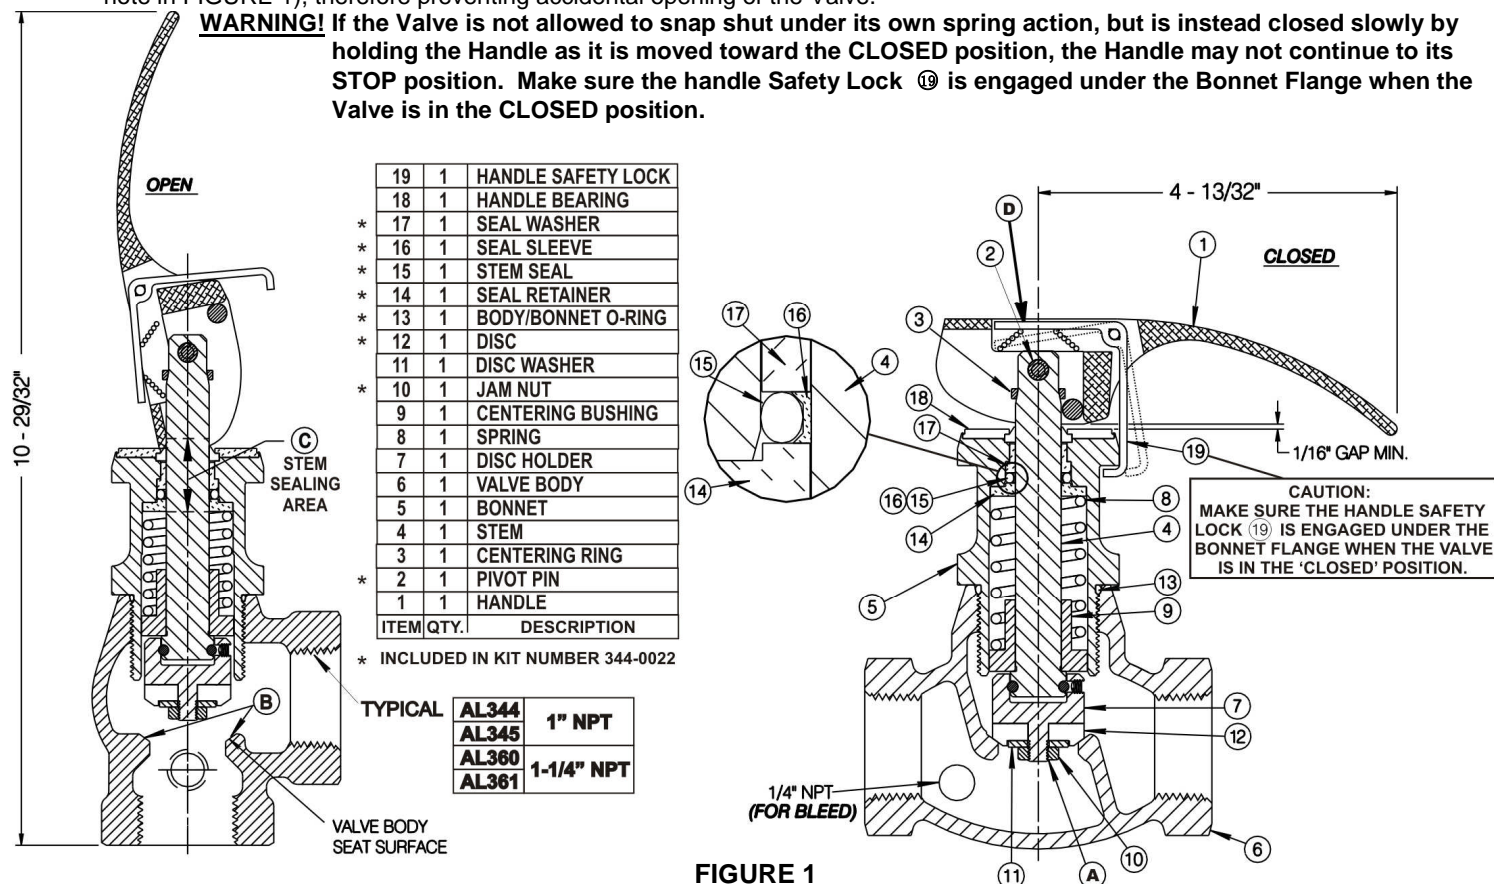

FIGURE 1
**REFER TO FIGURE 1 FOR THE FOLLOWING STEPS:**
- Step 2:** The Valve to be repaired must be in the CLOSED position, as shown in Figure 1. Make sure that all product has been removed from the system prior to any disassembly.
**REFER TO FIGURE 1 FOR THE FOLLOWING**
- Step 2:** With the Handle ① in the 'CLOSED' position, drive out the Handle Pivot Pin ② and remove the Handle .
- Step 3:** Remove the Handle Centering Ring ③ from the Stem ④ and keep it for re-assembly.
- Step 4:** Clean the part of the Stem that is sticking out of the top of the Bonnet ⑤ and remove any burrs or debris.
- Step 5:** Secure the Valve Body ⑥ in a bench-mounted vise, and remove the Bonnet ⑤ by turning it in a counter-clockwise direction. The Stem ④ and the Disc Holder ⑦ may come out with the Bonnet. If so, hold the Bonnet in an upright position and push the Stem through the Bonnet.
- Step 7:** Remove the Spring ⑧ and the Centering Bushing ⑨ from the Stem.
- Step 9:** Place the Disc Holder ⑦ in a bench-mounted vice and secure it just tightly enough to allow removal of the Jam Nut ⑩, the Disc Washer ⑪, and the Disc ⑫. Discard the old Disc and the Jam Nut.
REFER TO FIGURE 1 FOR THE FOLLOWING
- Step 1:** To open the Valve, depress the top surface of the Handle Safety Lock at ⑪ and lift the Handle to its vertical position. When the Valve is in the full 'OPEN' position, the heel of the Handle will rest squarely on the Handle Bearing ⑩ and the Handle will be cammed over slightly past the center of the Valve.
- Step 2:** To close the Valve, tap the Handle in the closing direction. The Handle will pivot in a 'Quick Acting' manner to the CLOSED position. The closing spring action of the Valve Assembly is designed to force the Handle Safety Lock ⑪ to lock under the Bonnet Flange (see note in FIGURE 1), therefore preventing accidental opening of the Valve.
**WARNING!** If the Valve is not allowed to snap shut under its own spring action, but is instead closed slowly by holding the Handle as it is moved toward the CLOSED position, the Handle may not continue to its STOP position. Make sure the handle Safety Lock ⑪ is engaged under the Bonnet Flange when the Valve is in the CLOSED position.